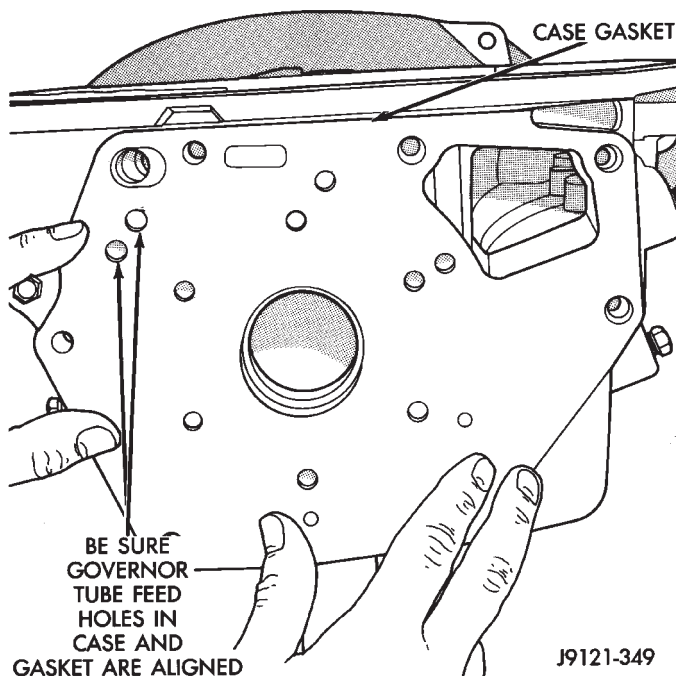

Fig. 162 Installing/Aligning Case Gasket
(13) Install new gasket at rear of transmission case. Use petroleum jelly to hold gasket in place. Be sure to align governor feed holes in gasket with feed passages in case (Fig. 162). Also install gasket before overdrive piston retainer. Center hole in gasket is smaller than retainer and cannot be installed over retainer.